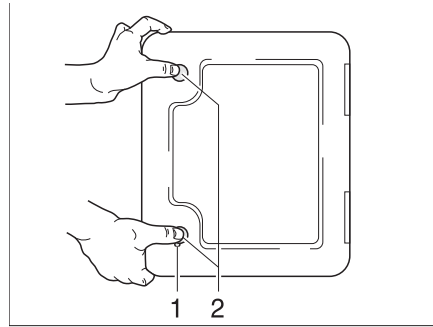

Fig. 150 Flap for Thetford cassette
The flap for the Thetford cassette (Fig. 150) is located on the outside of the vehicle.
- Insert key into locking cylinder of the push-button lock (Fig. 150,1) and turn a quarter turn clockwise.
- Press both push-button locks (Fig. 150,2) simultaneously with your thumb and open the flap for the Thetford cassette.